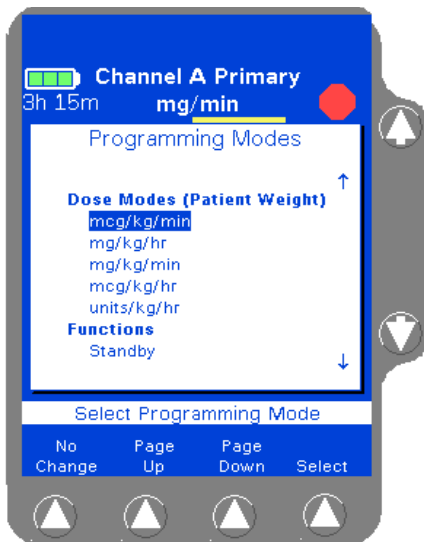

Figure 4-59 Weight-Based Dose Programming Modes
- Use the $\uparrow\downarrow$ and/or **Page Up**, **Page Down** soft keys to highlight the appropriate dose mode selection (Figure 4-59). Some or all of the following dose modes may be available depending on pump configuration at the facility: